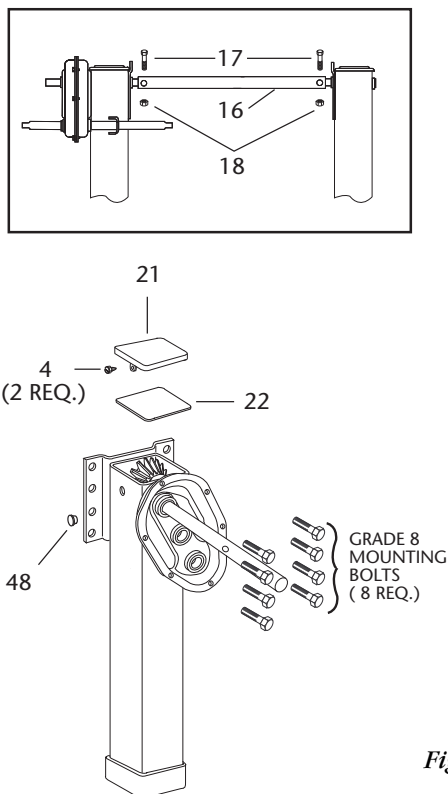

Figure 5
3. Remove the eight (8) landing gear mounting bolts from the mounting plate and remove the landing gear leg from the trailer.
5. Remove the plastic plug (**Item 48**) from the bevel pinion gear access hole (see **Figure 5**).